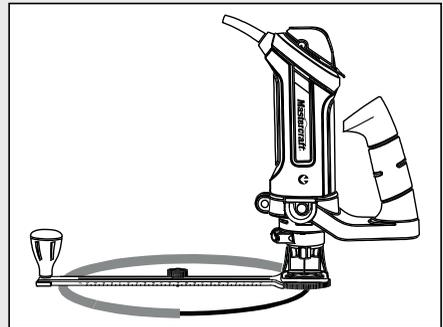

Fig. 14
- When the motor is up to full speed, slowly tip the tool and circle cutting guide assembly to an upright position, letting the bit cut into the workpiece (Fig. 14). Be careful to keep the pivot point located at the centre of the circle to be cut. Once the tool has reached the upright position and the bit has cut through the workpiece, slowly move the tool in a **clockwise** direction using slow steady pressure to make the cut. Continue to cut the circle, keeping the tool upright and rotating around the circle cutting guide pivot point.